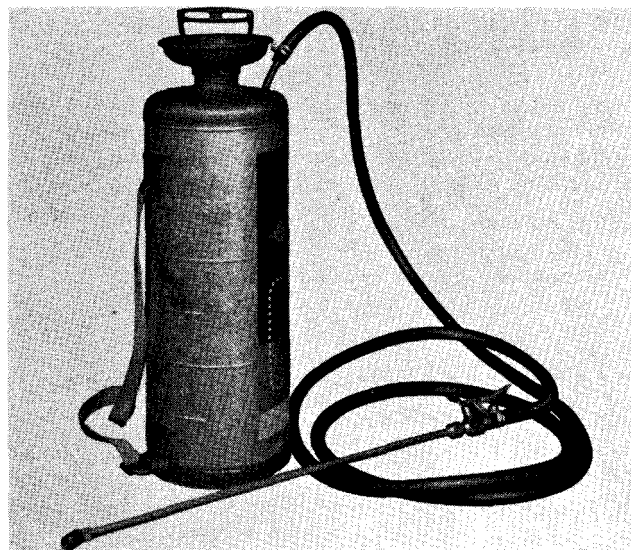

Fig. 19. Manual Adhesive Applicator
**Manual Adhesive Applicator** is supplied for normal air cleaning applications. It is not supplied for oil mist control applications. See Fig. 19.